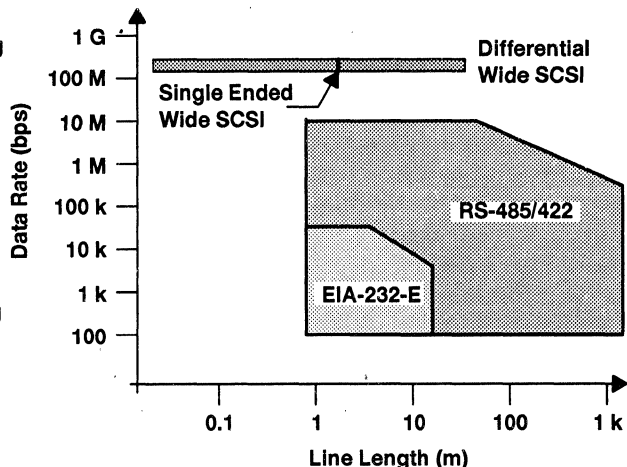

Figure 1-3. Interface Standards
3. EIA RS-485: This section is an overview of the RS-485 specification (see Figure 1-3).
4. EIA/TIA-422-B: This section is an overview of the EIA/TIA-422-B standard (see Figure 1-3).
5. SCSI: In this section we consider the physical layer of this standard that concern both single-ended and differential transmission. For single ended transmission we look specifically at optimizing the line termination to achieve maximum transmission rate over the 6 meter distance as specified in the standard. The differential SCSI system increases the line length to 25 meters and uses the RS-485 standard to achieve this. We also look at TI's new nine channel RS-485 transceiver that minimizes the problems caused by the 18-line wide bus as defined by the standard (see Figure 1-3).
In Figure 1-3 we can see the relationship of each transmission standard when comparing data rate and line length.